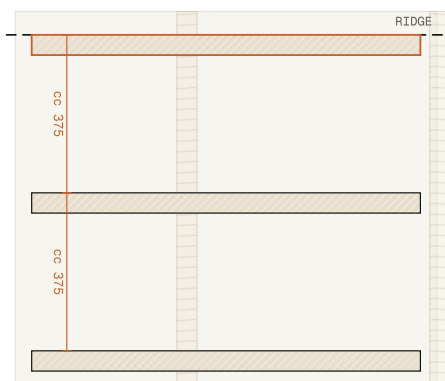
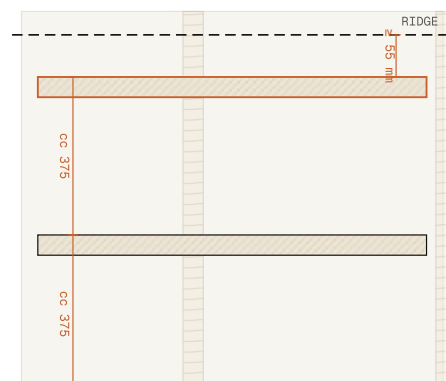

Figure 1 — start from the ridge
Figure 2 — start ≥ 55 mm from the ridge
Figure 1: battens at cc 375 mm from the ridge, adjustment at the top against the flashing. Figure 2: start a minimum of 55 mm from the ridge, then cc 375 mm downwards with adjustment at the bottom. The outer edge of the bottom batten equals the position you want for the eaves flashing.
- 3 Continue battening at cc 375 mm, with adjustment at the top (figure 1).
- 4 Alternatively, start the battening a minimum of 55 mm from the ridge, then cc 375 mm downwards with adjustment at the bottom (figure 2).
- ③ Solskifer ridge tile (half panel with straight top edge) — hangs by its rail on the top batten, top edge 45 mm above the rail; the glued-on clip under the lower end is pushed between the panels in the row below
- ④ Top batten — ridge-side edge ≥ 55 mm from the ridge (D2, figure 2), then cc 375 downwards
- ⑤ The counter batten stops short of the ridge — air OUT at the ridge (opening $\approx$ counter-batten height)